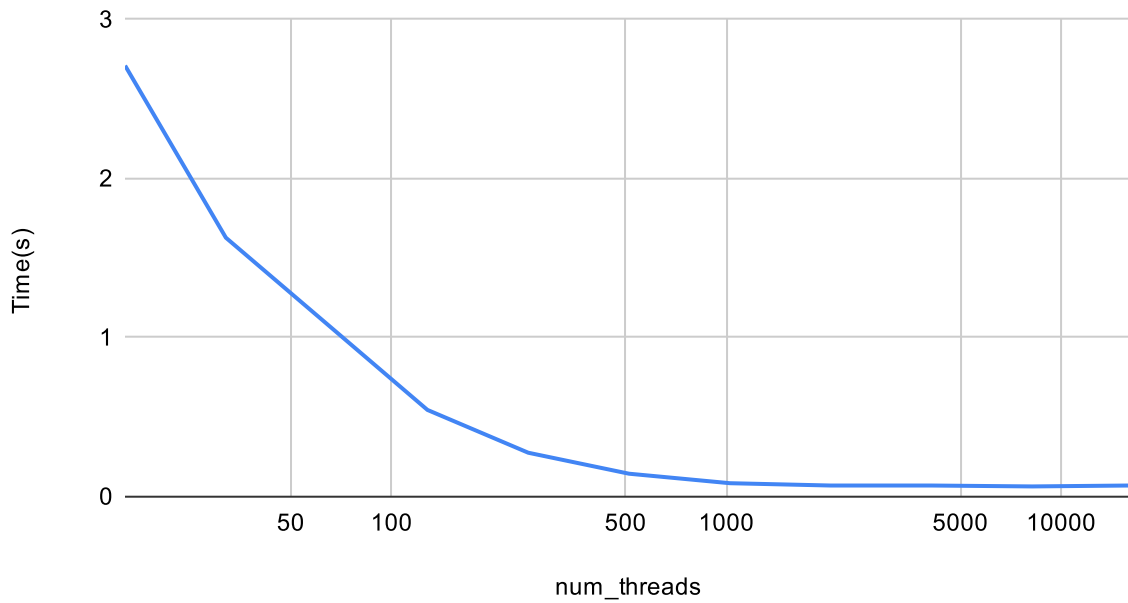

Figure 2: Time vs Number of Threads (Logarithmic Scale)
- We observe in Figure 2 that the with increase in  $t$ , the time taken is reduced due to the program being highly parallelisable.